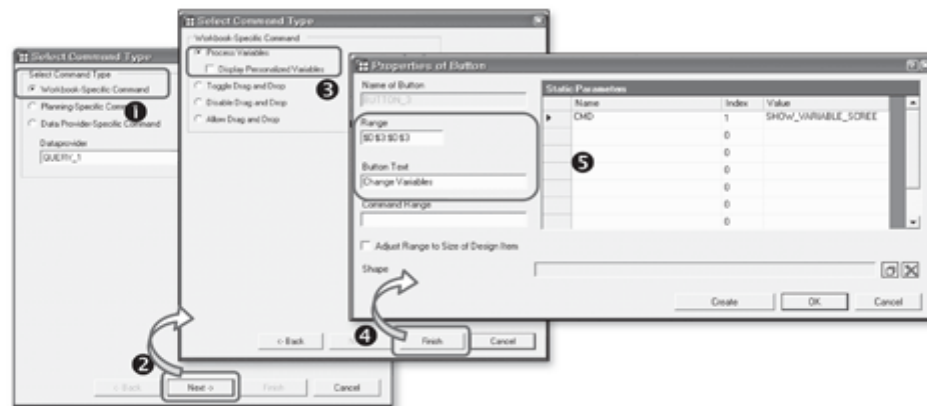

Figure 10.35 Set Properties for Button
10. For our example scenario, select Workbook-Specific Command (❶ of Figure 10.35) for the inserted design item, and click Next (❷). On the next screen, select Process Variables from the list of workbook-specific commands (❸), and click Next. The next screen displays the static parameters for the selected command. You can also maintain the button text and range for the button in the workbook (❹). Finally, click OK to return to the workbook.